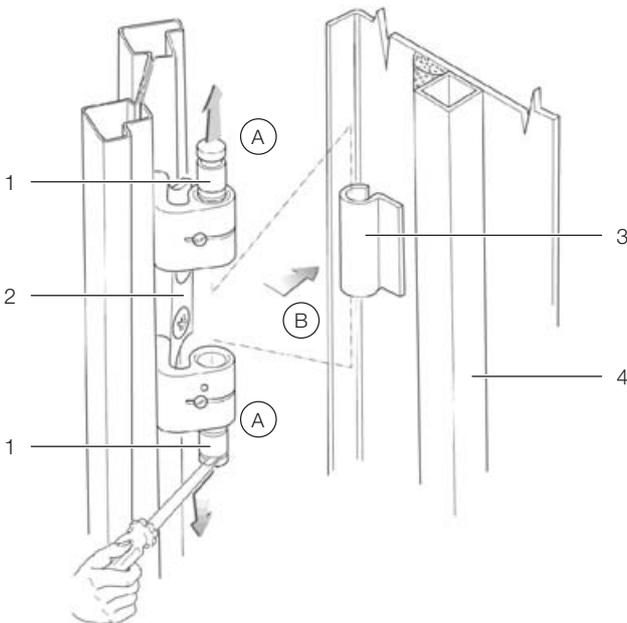

Fig. 18: Removing a door hinge
- Loosen the hinge bolts from the four door hinges by raising them with an appropriate tool (e.g. screwdriver). Pull the bolts out of the hinge pin holding fixture as far as they will go (see fig. 18, step A). Begin with the lowest door hinge.
- Remove the server enclosure door (fig. 18, step B).